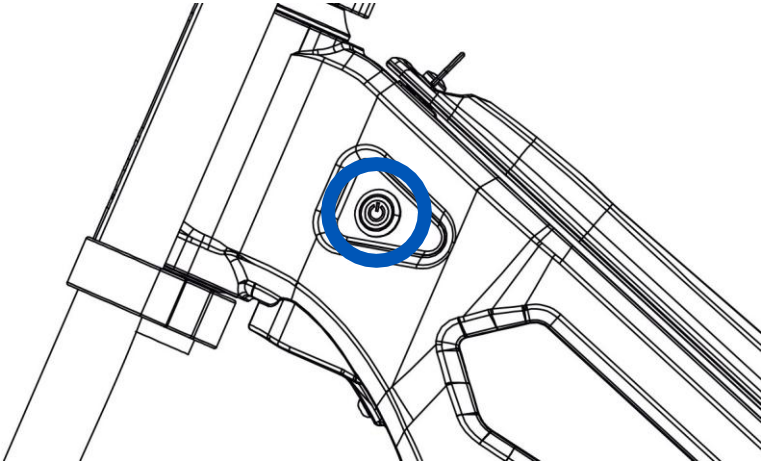

Fig. 13
- 1- Press the power button located on the left side of the upper frame (Figure 13).